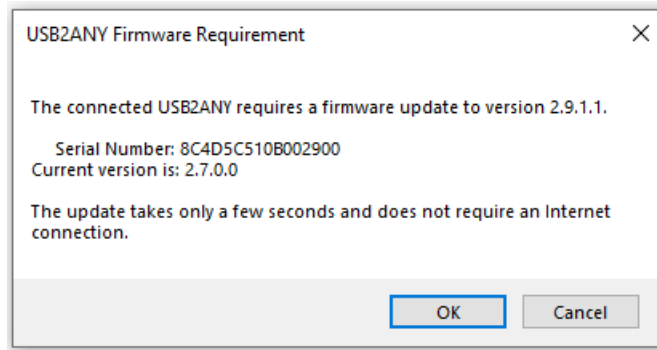

Figure 3-1. Firmware Update Request
3. Figure 3-1 shows the next screen.